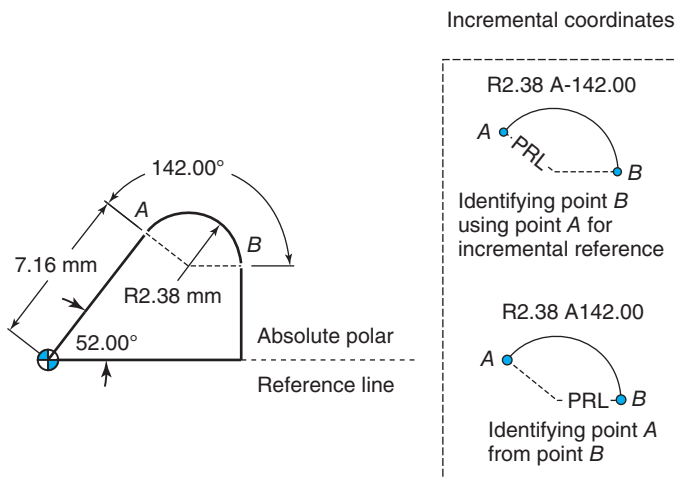

Figure 17-52 Some drawing dimensions are polar rather than rectangular.
If the central reference is the PRZ point for the part geometry and the angular reference line is horizontal (zero degrees), then the coordinate is an **absolute** value **polar** coordinate. For example, in Fig. 17-52, point A is absolutely identified in the flat plane as:
Sometimes the point cannot be absolutely identified from the PRZ but it can be usefully located using another known point as a reference. If the radial and angular dimension is local, then an **incremental polar** coordinate can do the job. In Fig. 17-52, point B is identified using the center of the radius as its origin and the radial line to point A as its angular reference.
17.4.2 Positive and Negative Angles In Fig. 17-52, note that the 1428 angle is expressed as a negative number. That's polar coordinate convention.